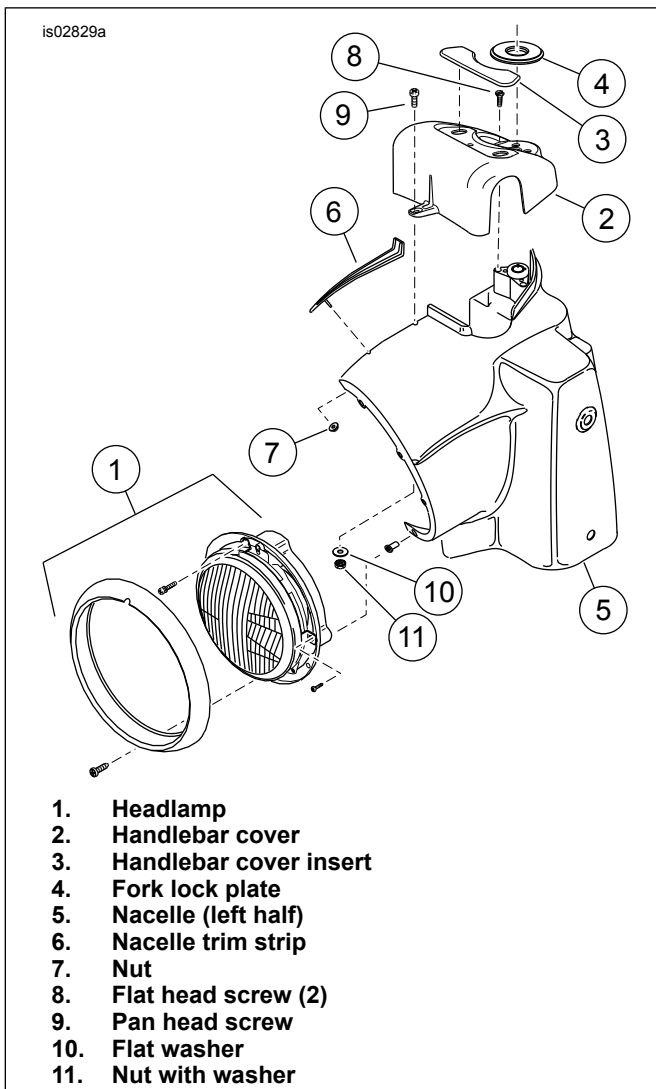

Figure 1. Nacelle, Headlamp and Handlebar Cover (FLHR/C Models)
14. **For FLTR models:** Proceed to Step 18. **For FLHR/C models:** See Figure 1. Reaching inside the headlamp nacelle (5), remove the flange nut (7) to release the trim strip (6) at the top of the nacelle. Retain the nut and trim strip for re-assembly.
15. Carefully pry off the fork-lock label plate (4) from the stock handlebar cover (2). Remove the entire plastic plate; do not remove the adhesive label from the plate.
16. **For North America:** Remove and retain the two Phillips flat head screws (8) underneath the label plate that hold the handlebar cover to the fork lock. **For Australia, Brazil, England, Europe and Japan,** the flat head screws (8) have break-away heads and are not easily removable. To remove screws with break-away heads: